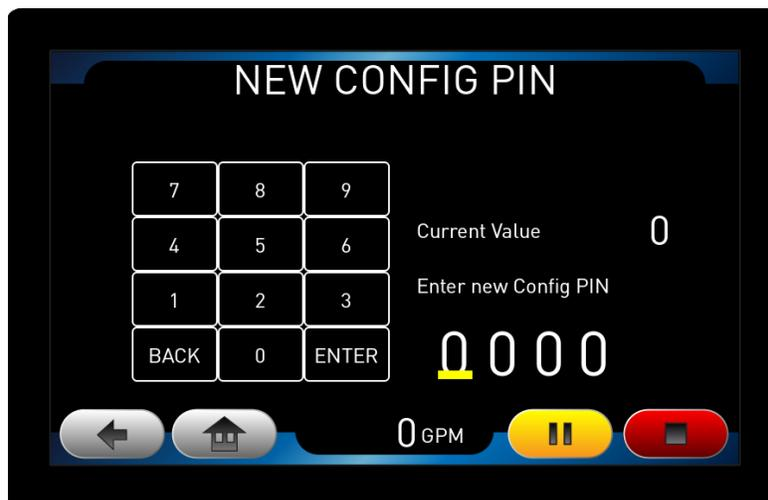

Figure 45. Change Config passkey page
5. Select the Config PIN button to display a keypad used to change the Configuration PIN (Figure 45).